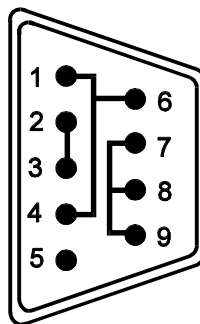

Figure 2-1. Serial Loopback Connections
- Two serial loopback test connectors (refer to Figure 2-1 for pinout)
4. Connect the PWR/key 15-pin cable to the Pwr/key female receptacle located above the power receptacle.
6. Connect the serial loopback connector(s) and the printer cable to the appropriate connectors and connect a PC/AT-compatible keyboard to a keyboard connector. Figure 2-1 illustrates the wiring necessary for the loopback connection.